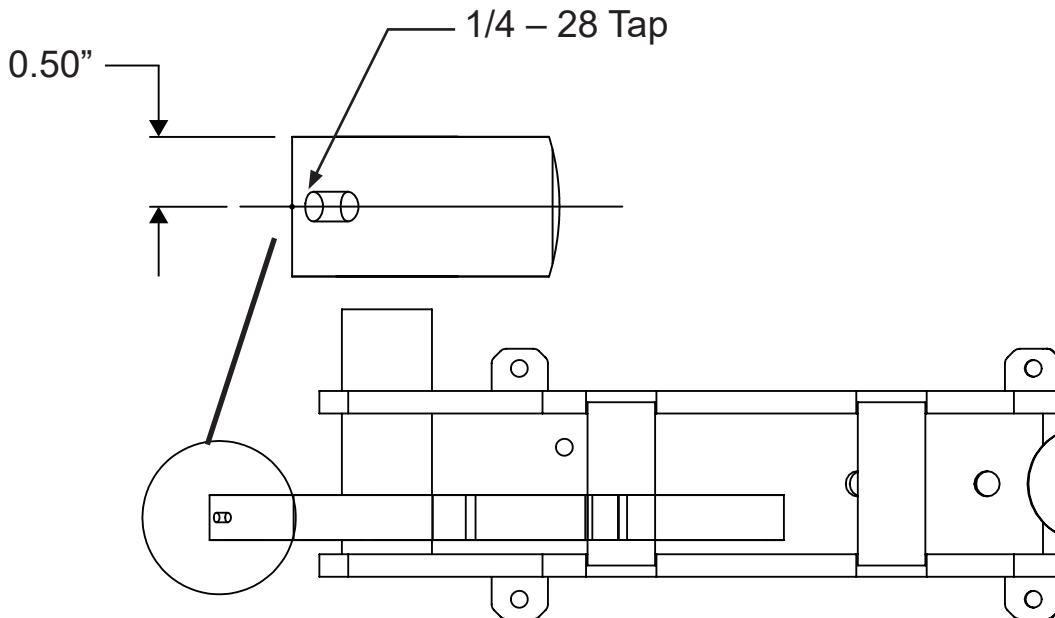

Figure 2
7. If the existing finger weldments do not have grease zerks installed, holes will need to be drilled and tapped in each finger as specified. Drill and tap 1/4-28 threaded hole for 90° grease zerk fitting (PN 0002017) on finger cylinder rod end pin hole on finger weldments. See Figures 2 and 3.